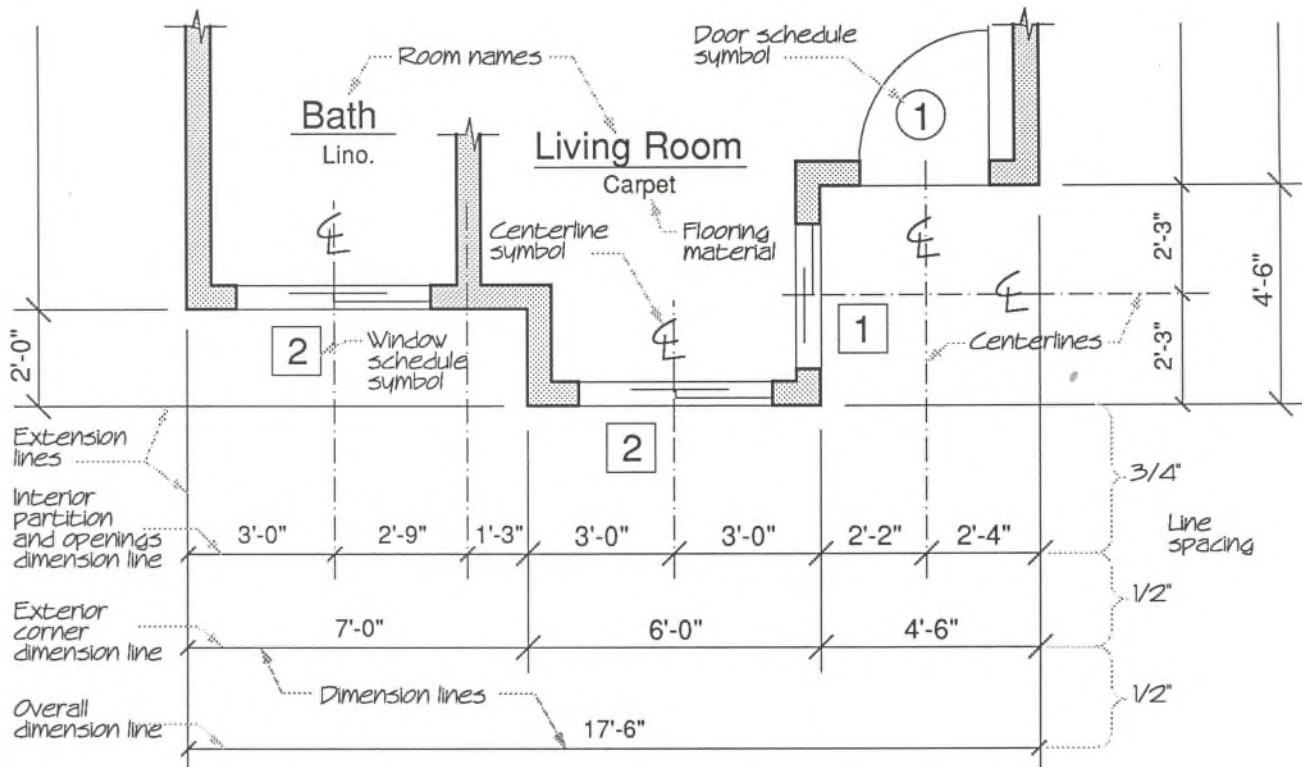
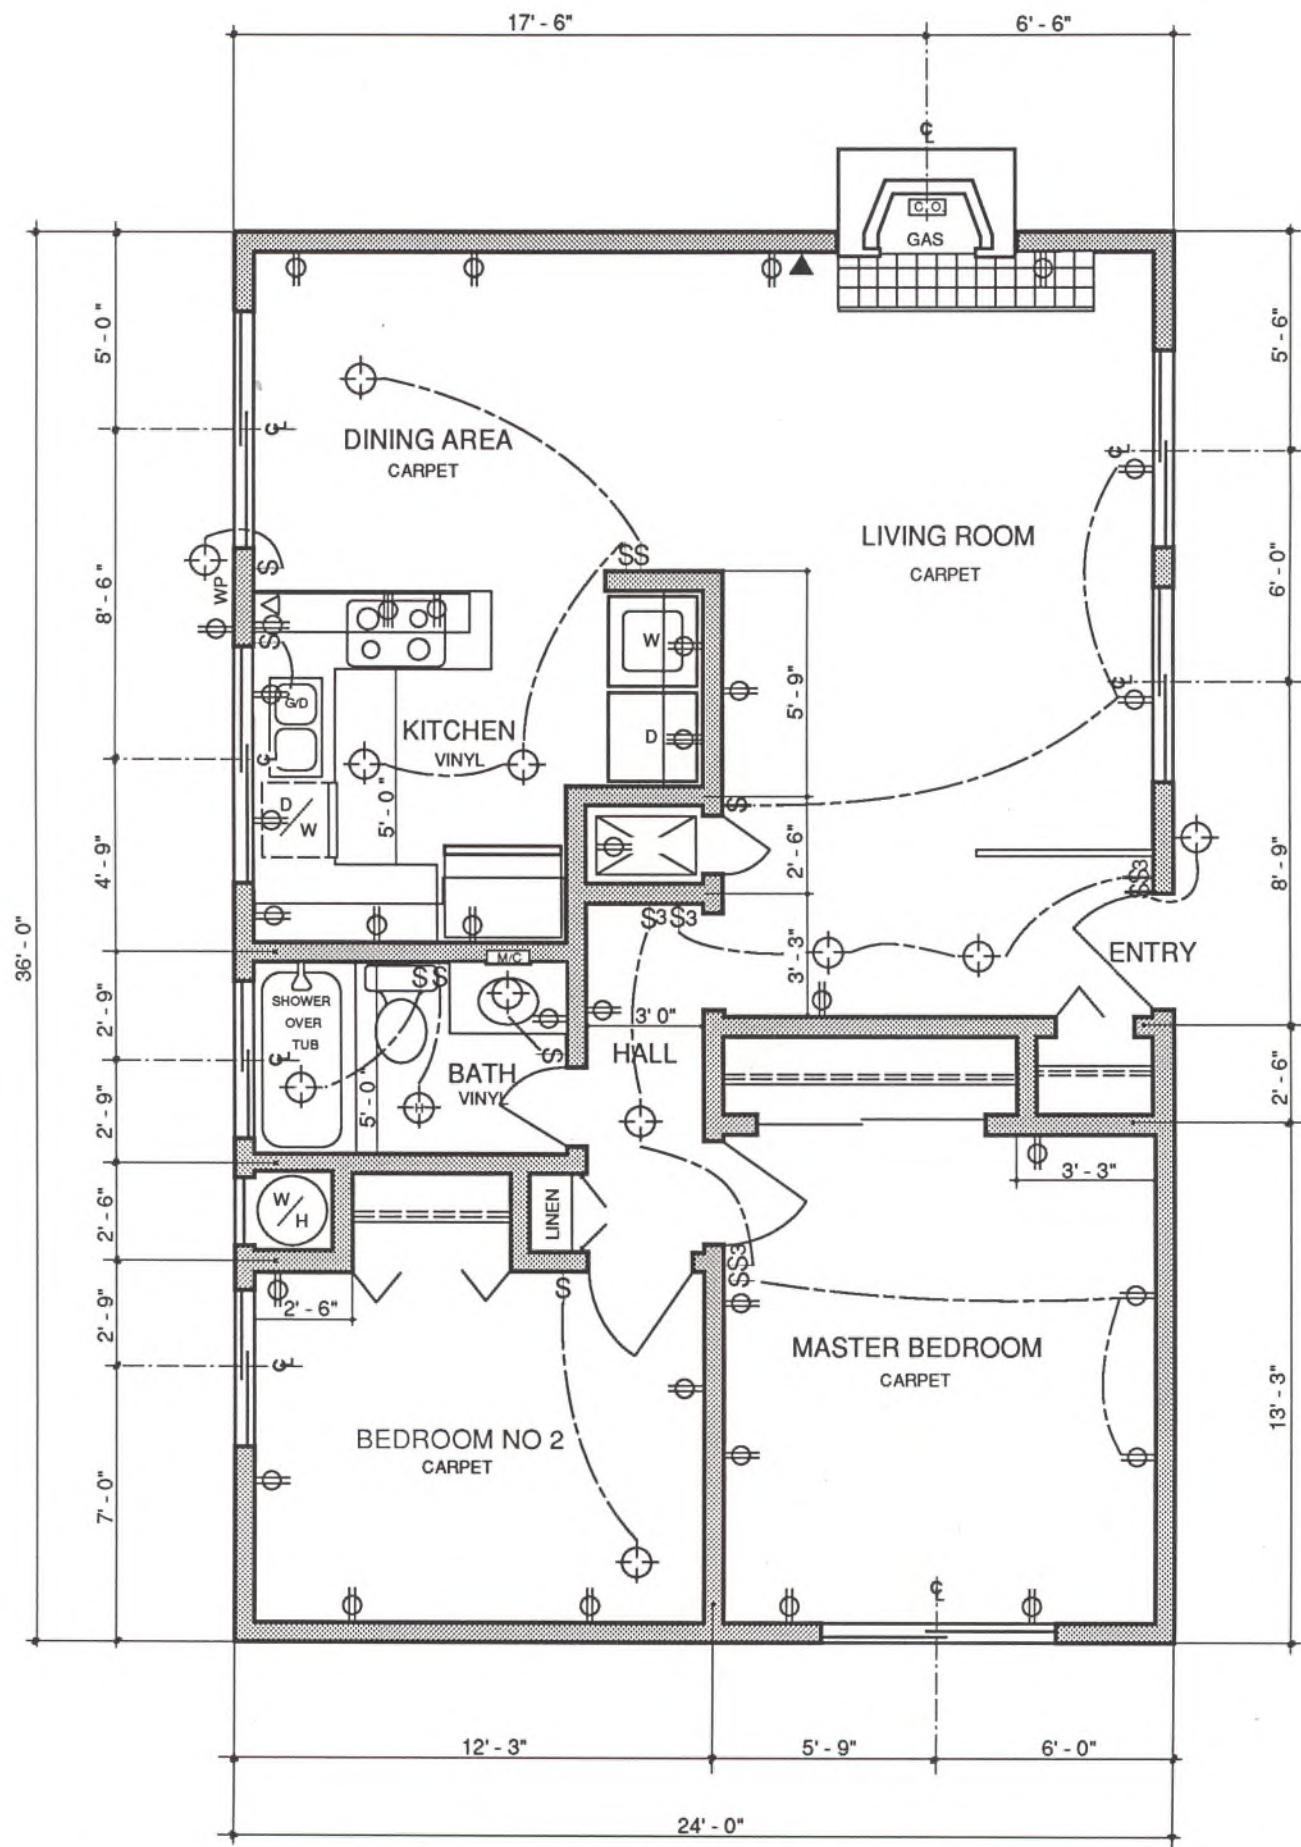

Fig. 21.2 Dimensioning procedures.
Fig. 21.4 A working drawing with dimensions added. (Not to scale; reduced to show dimensioning procedures.)
Dimensions are numbers which indicate actual sizes on scale drawings. Each person involved in the construction of a house will expect to find the information needed to do his or her part of the work on the prints. Consequently, the drawings must clearly show overall exterior measurements of the house, specific measurements of the interior spaces and all details. (See Fig. 21.2 and 21.4.)
Lines drawn for the purpose of showing where a measurement begins and ends are called dimension lines. All the measurements of the plan are shown on these lines. When used for dimensioning the exterior walls of the plan, they are placed around the exterior perimeter. (See Fig. 21.2.) Measurements of rooms and halls are placed within the area of the plan where necessary for clarity. (See Fig. 21.4.)
A centerline designates the center of a given area. The word centerline is often abbreviated as CL. To designate a centerline on the plan, a series of long lines and dashes is drawn through the center of any given space. The centerline symbol is placed at the end of a centerline as shown in Figures 21.2 and 4. In dimensioning a floor plan, centerlines are usually placed along perimeter dimension lines, extending through the exact center of each window, door, and interior partition. When used in this way, they serve the same purpose as extension lines.
The name of each room should be printed on the plan. Each bedroom needs an identifying label such as: MASTER BEDROOM, BEDROOM NO 2, BEDROOM NO 3, etc. Or they could be identified as OWNER'S BEDROOM, GIRL'S BEDROOM, BOY'S BEDROOM, etc. (See Figs. 21.2 and 4.)
1. The first dimension line around the perimeter of the house should be about 3/4" away from the wall line, leaving sufficient room to place window and door sizes; 1/2" between the first and second dimension lines is sufficient. (See Fig. 21.2.)
3. Dimensions are given in feet and inches; for example, 10' - 6". If there are no inches, the number is written 10' - 0". Numbers are always placed above the dimension lines as in Fig. 21.2.